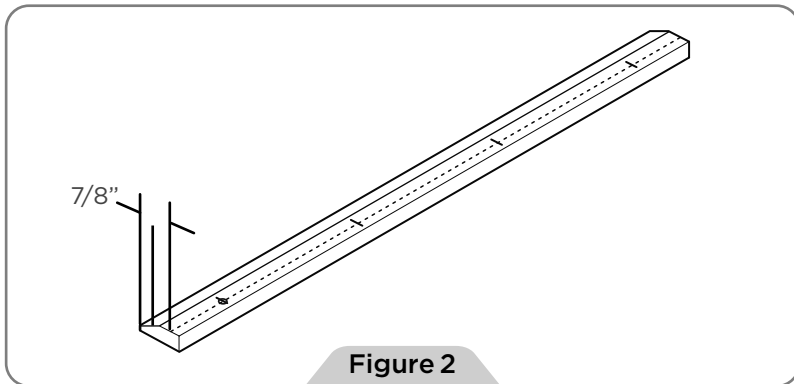

Figure 2
4. Measure four evenly spaced areas along the cleat line made in step 1, utilizing studs where possible **(Figure 2)**.